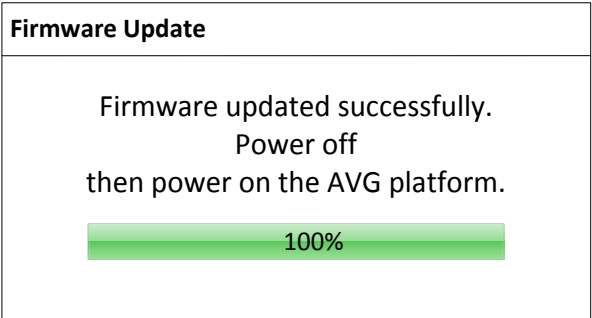

Figure A.6. Image Update Completed Window Shown on the SL-881 LCD Touch Screen
10. After all firmware is updated successfully, follow the instruction to power off then power on the SL-881, as shown in Figure A.6.